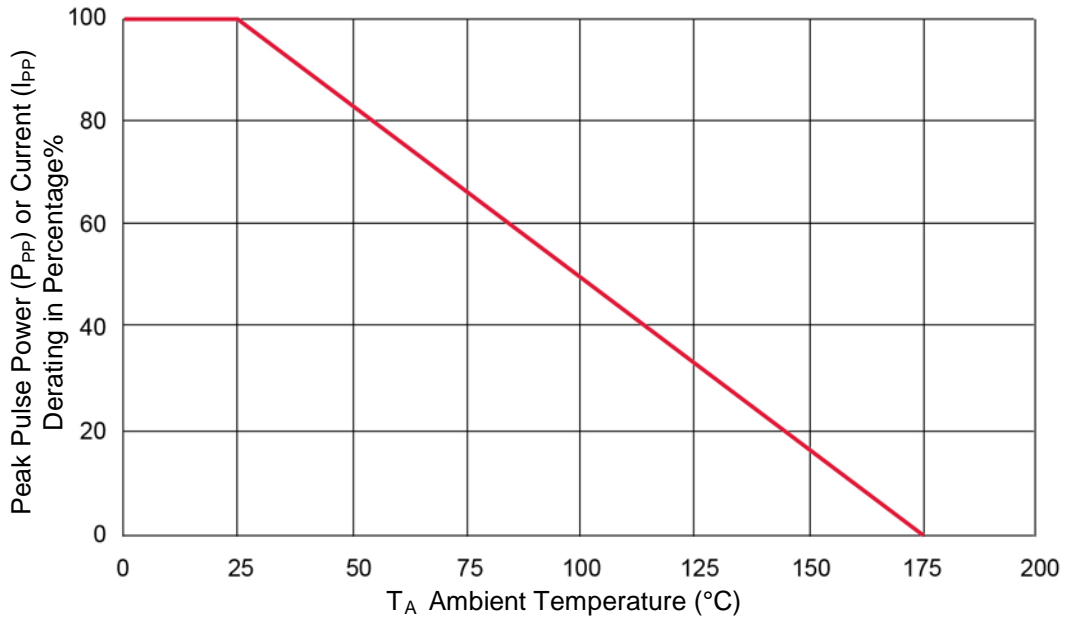
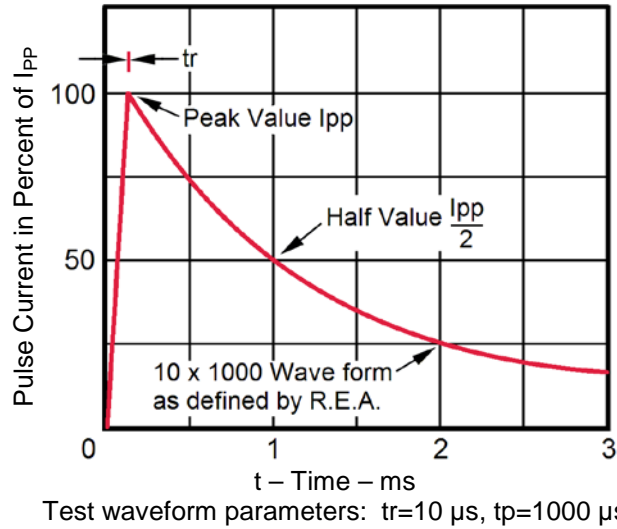

FIGURE 2
FIGURE 3
3. Non-repetitive current pulse, per Figure 3 and derated above $T_A = 25$ °C per Figure 2.
- (1) All ratings at 25 °C unless specified otherwise.
- (2) V_(BR) measured after I_(BR) applied for 300 µs, I_(BR) = square wave pulse or equivalent.
- (3) Surge current waveform per Figure 3 and derated per Figure 2.
- (4) For bidirectional types with V_{WM} of 30 volts and less, the I_D limit is doubled.